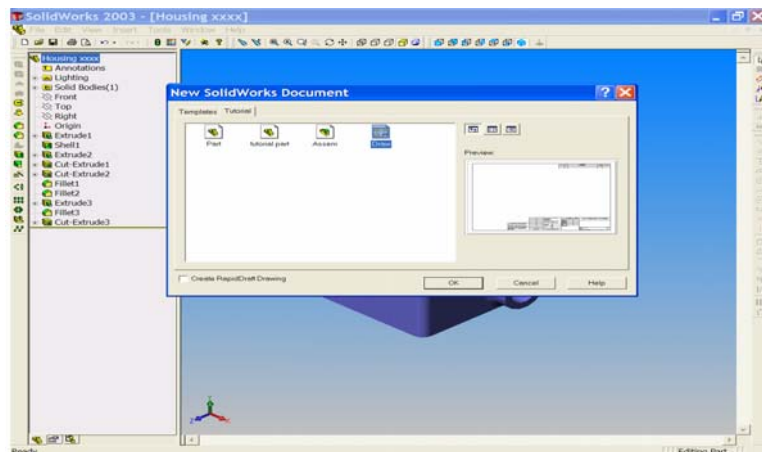

Figure 1
4. With the Housing file open select 'New' and choose 'Draw'  from the tutorial window. See Figure 1.